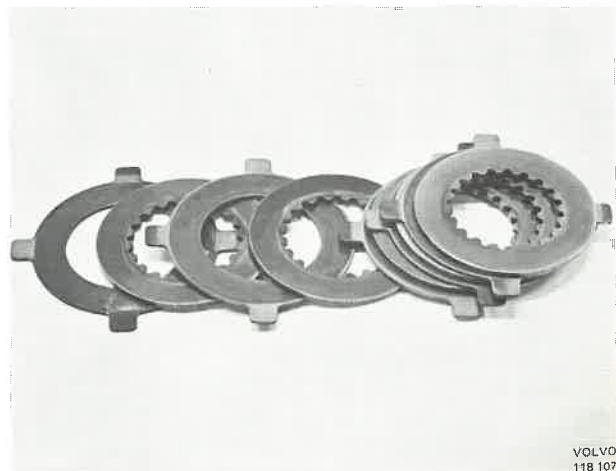

Fig. 92-33. Discs
5. Oil the new discs, see Fig. 92-33. Place them on the shaft starting with the one with internal teeth